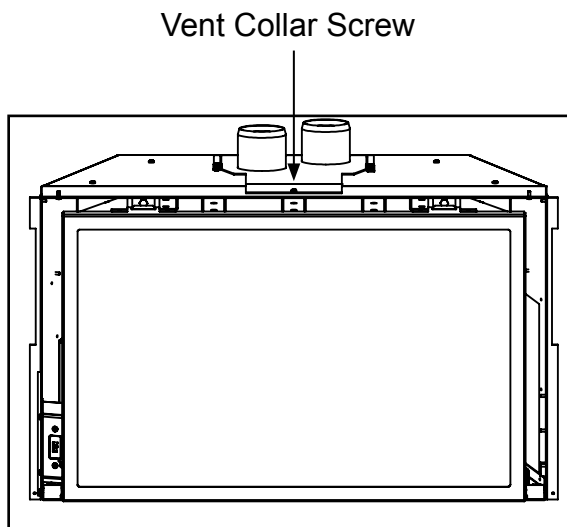

Figure 27: Vent Collar Plate Screw Location.
5. If the fireplace opening is lower than 24" (610 mm), remove the vent collar plate from the top of the insert by unscrewing the single T-20 Torx screw located on the center top of the stove above the door opening (see Figure 27). Slide the collar plate backwards. Properly secure the vent collar plate to the flexible vent pipe liner(s) previously installed in the chimney. Be careful not to over-stretch the liner(s).